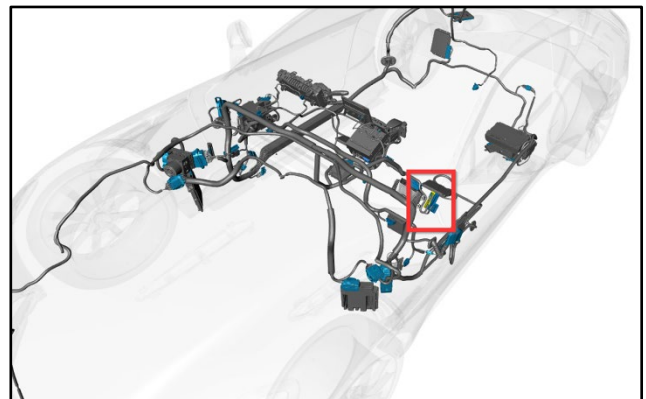

Figure 19
9. **HU CAN** – This header is in the instrument panel next to the DRVU (refer to Figure 19).